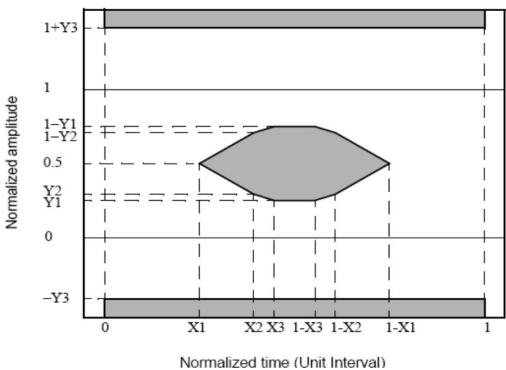

Figure 2. Eye Mask
2. Hit ratio of 5e-5, per IEEE; See Figure 2 below.